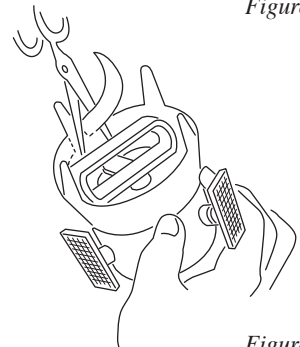

Figure 3
**B) BE SURE NOT TO TRIM OFF THE "TABS"** (Figure 3).